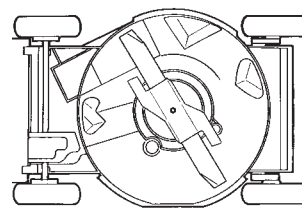

Figure 19
- Tip the lawn mower onto its left side (Fig. 19).